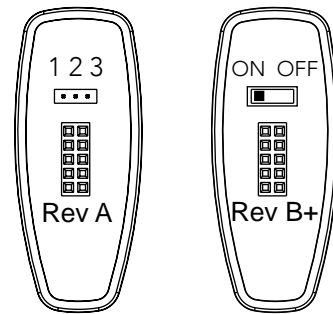

Figure 59. Bluetooth Switch
3. Move the jumper or switch to the ON position. (Left two pins on three pin version or to the left on slide switch, Figure 59)